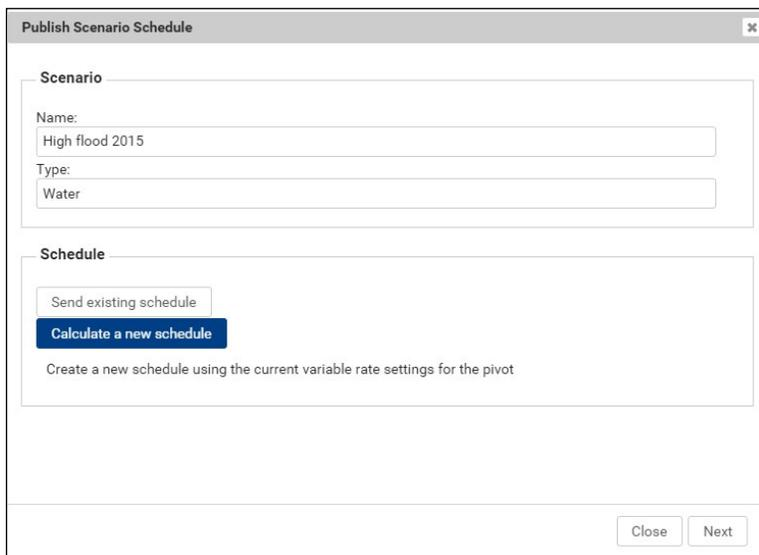

Figure 11-2 1. Calculate a new schedule 2. Next
3. In the Publish Scenario Schedule screen, click **Calculate a new schedule** and then click **Next**. Refer to Figure 11-2.